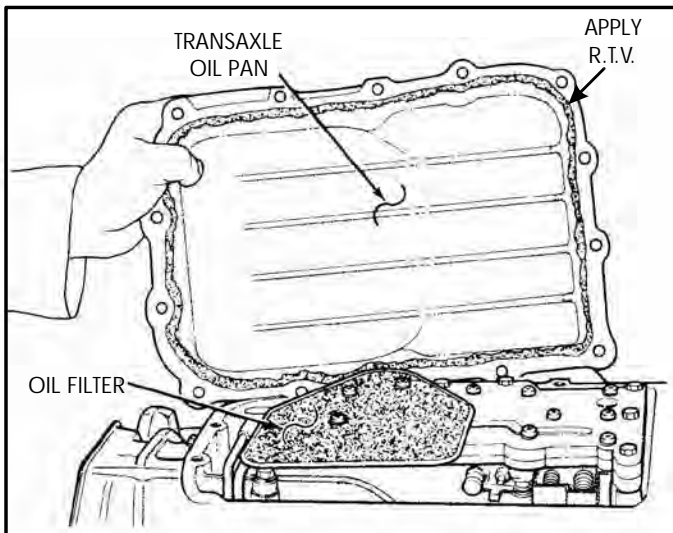

Figure 243
9. Apply a 1/8" bead of R.T.V. to bottom oil pan, as shown in Figure 243.